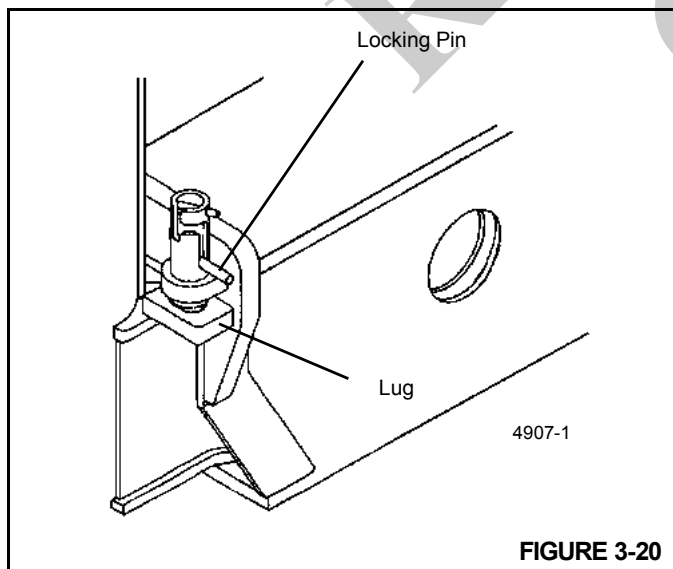

FIGURE 3-20
1. Turn the locking pin (Figure 3-20) 90° from its stowed position and allow the pin to rest on top of the outrigger beam.